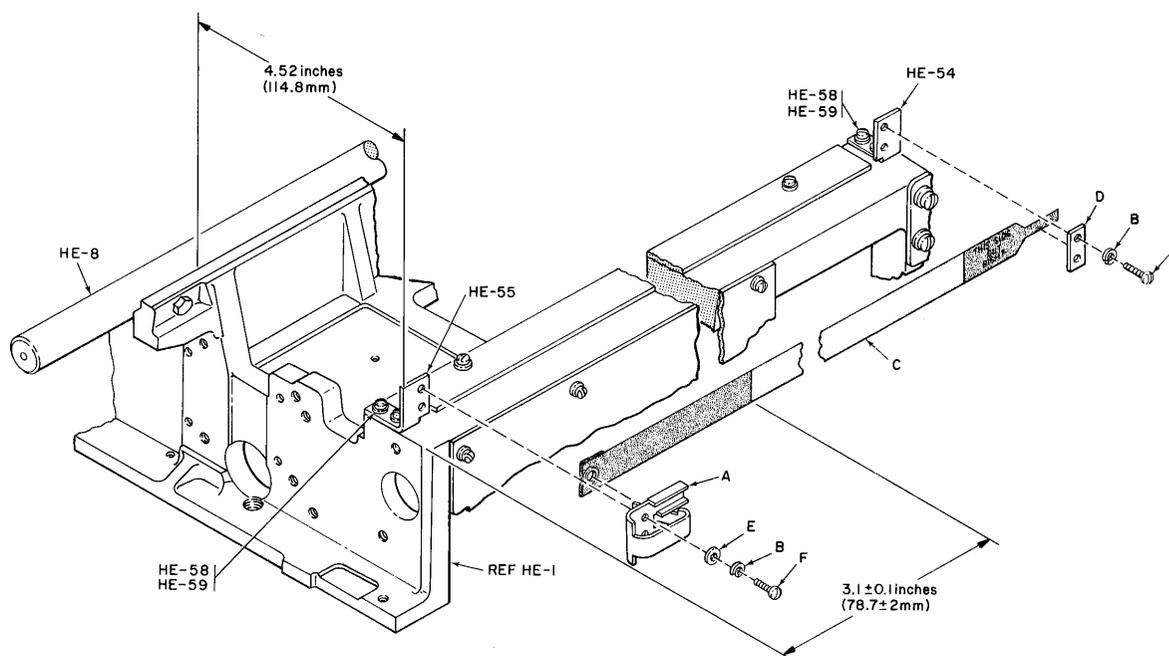

Figure 5-3. FLEXIBLE TIMING FENCE MOUNTING, SERIES 100
- B. Installation of Flexible Timing Fence 63002440 (Fig. 8-6 and Fig. 5-3)
1. Mount spring clasp (Fig. 5-3/A) on left bracket support (HE-55) using two screws (Fig. 5-3/F), two split lockwashers (Fig. 5-3/B) and two flat washers (Fig. 5-3/E). Clasp should be horizontal and perpendicular to printer machine casting (HE-1) when mounted on left bracket support (HE-55).
2. Mount right bracket clamp (fig. 5-3/D) using two screws (Fig. 5-3/F) and two split lockwashers (Fig. 5-3/B).
3. Mount left side of flexible timing fence behind clasp (Fig. 5-3/A) by placing mounting hole over spring projection pointing towards back of printer.
4. Insert right side of flexible fence (tab end) between right clamp (Fig. 5-3/D) and right mounting bracket (HE-54). Right side surface of fence should read "THIS SIDE OUT" (facing operator).
1. Loosen screws (Fig. 5-3/F) on clamp (Fig. 5-3/D) and pull tab of fence to the right so that the first window of the fence is located 3.1 ± 0.1 inches (78.7 ± 2 mm) from edge of printer casting (See Fig. 5-3, Ref. HE-1). (Note that this dimension adjusts for a 5/8-inch print margin on printing form).
1. From the front edge of guide bar (HE-8) (Fig. 5-3) measure 4.52 inches (114.8 mm) out to the left and right edges of the fence. Do not exceed given dimensions.
2. If parallelism is not uniform along entire length of fence, loosen screws and washers (Fig. 5-3), (HE-58, 59) in either left or right bracket (HE-55, 54) and obtain equal measurements at both ends. Tighten hardware when correct dimensions have been obtained.